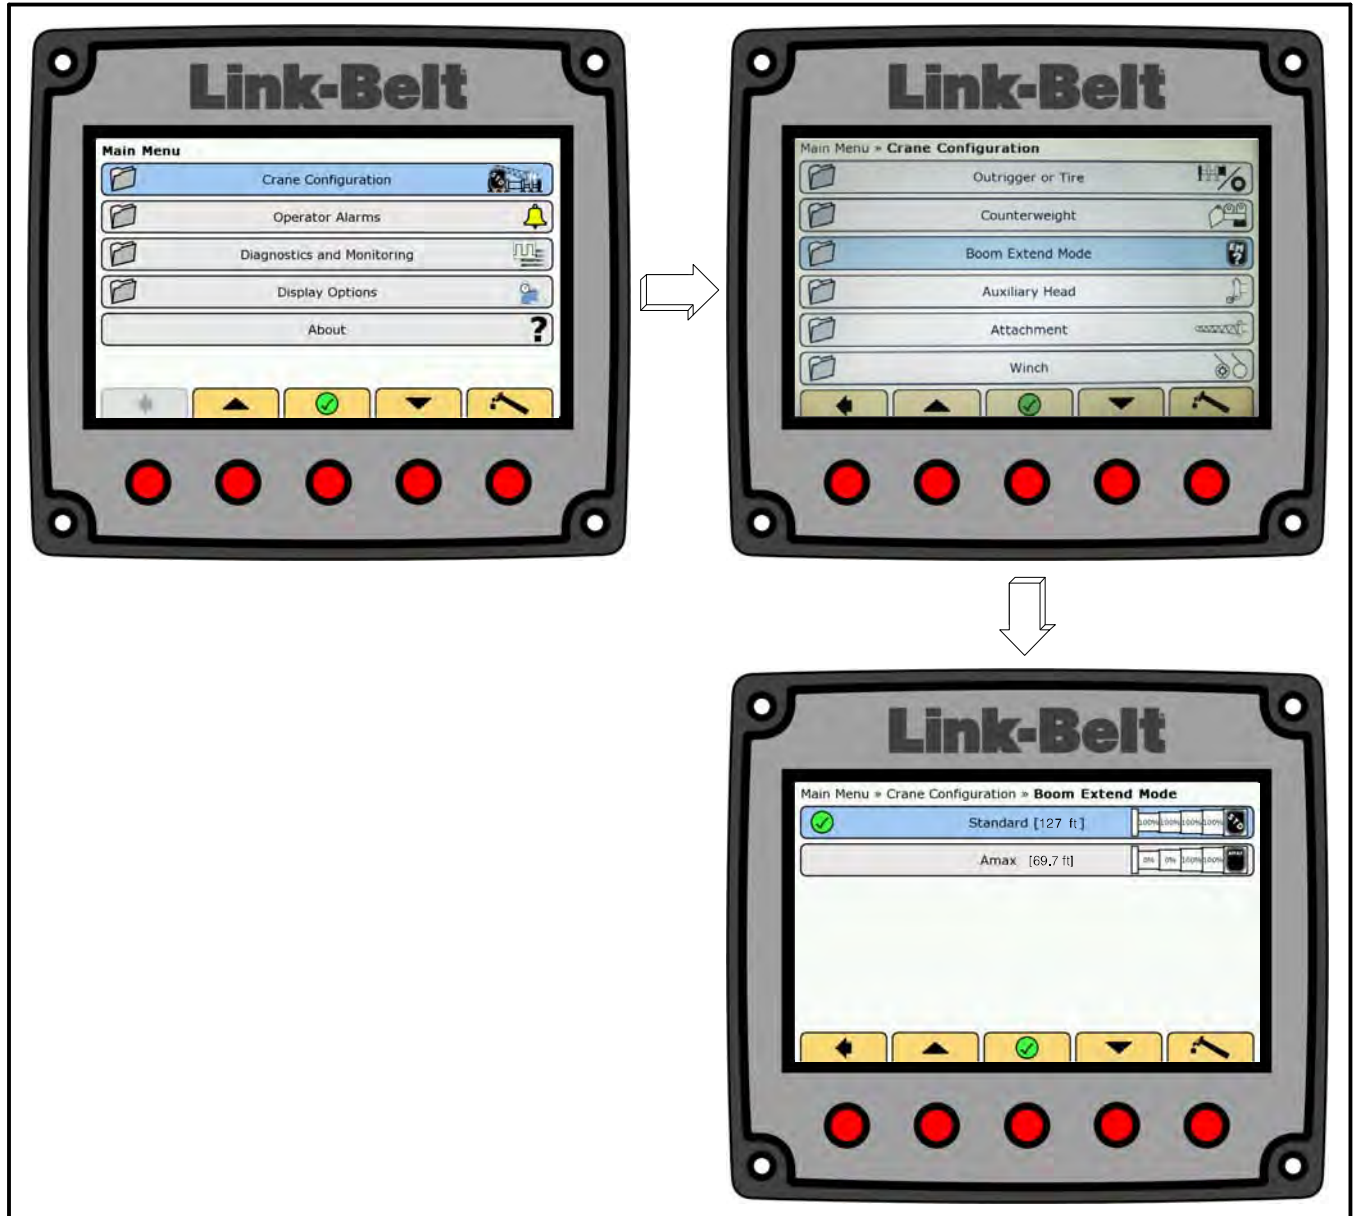

Figure 1–79
9. On the Crane Configuration menu, scroll to Boom Extend Mode, and press the OK/Enter button . Refer to Figure 1–79.